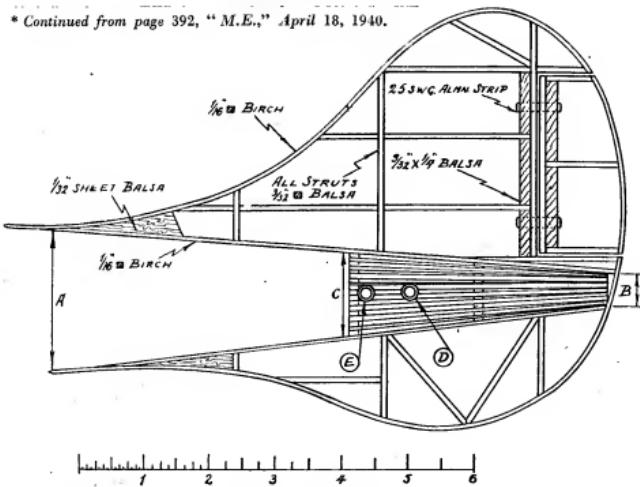
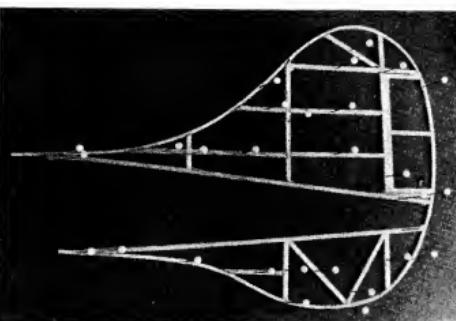
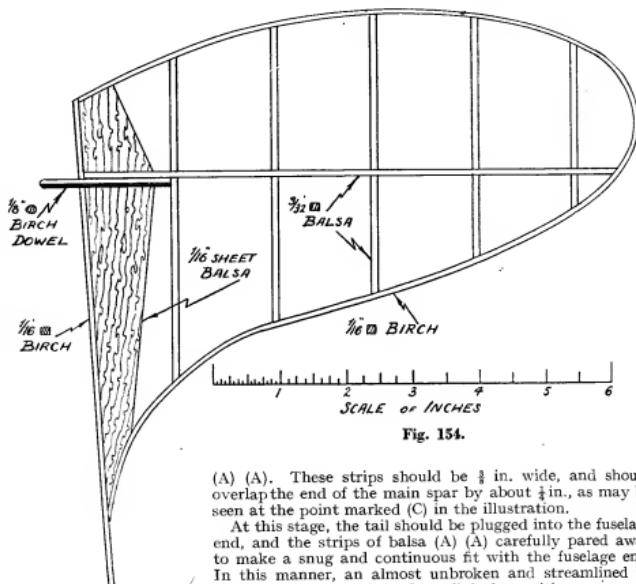

Fig. 151.
Fig. 152. First stage of rudder construction.
Fig. 154.
A start should be made on the tail fin. Measure the diameter of the extreme end of your fuselage (marked [B] in Fig. 151) and also the diameter at (C). Set these measurements out on a sheet of paper, and continue the
diverging lines to the point (A). This will form the basis for the drawing of the rudder and fin. Fig. 151 is exactly half scale, so that we may, from this, set out a full sized plan. The best method is to obtain a sheet of tracing paper large enough to cover Fig. 151, and, with a pencil, to draw a mesh of $\frac{1}{4}$ in. squares over the whole paper. This squared paper is now pinned down upon a board over Fig. 151. Next, take a sheet of drawing paper, and cover this in light pencil lines with a $\frac{1}{4}$ in. mesh. In this way the irregular outline of the fin and rudder at any point may be ascertained by noting the square, or portion of a square, at which the point lies, when it may be transferred to the equivalent $\frac{1}{4}$ in. square on the drawing paper. The scale will, of course, be automatically doubled in the process, and a fairly accurate outline of the full-sized fin obtained.
The outline being completed, the positions of the bracing struts and other components may be scaled off, and marked in. We should now have a drawing something like Fig. 151, but twice the size. I have roughly indicated the tail portion of the fuselage in this illustration, but you, of course, need not do this.
The framework of the rudder and fin is of $1/16$ in. square $\frac{1}{8}$ in. thick. This may be easily bent to shape in the steam from a kettle, after which the framework should be pinned down over the drawing in the manner indicated in Fig. 152. This picture shows the rudder in course of construction, and, in conjunction with Fig. 151, should render the building quite simple. Cut all the bracing struts accurately to size from the job, and pin them in place, flat to the board, while the cement is setting.
It will be seen that a small trimming fin is let into the rear of the rudder. Beyond cementing in the trimmer framework, do not worry about this at the moment. Build the rudder edge from one continuous length of birch; this may be cut through later to free the trimmer. Fig. 152 gives an exact idea of the work at this stage.
As the trimmer hinges on two small pieces of aluminium strip, it will be necessary to embed and cement these into the uprights of both rudder and trimmer (Fig. 151). The uprights should be carefully pierced with a broken safety razor blade before inserting the aluminium strips.
The diagram in Fig. 151 indicates the materials from which the rudder is made. Should the birch strip not
tubing which is cemented across the fuselage between stringers Nos. 4 and 5 on one side, and 12 and 13 on the other. The position of this tube is indicated at (D) in Fig. 151. The other tube shown in this drawing (marked (E)) does not pass right through the fuselage from one side to the other. It is really the end of a small piece of celluloid tube, about 3/16 in. long, which is cemented hard against the first former of the tail portion. On the other side of the fuselage there is a similar piece of tubing, and their purpose is to locate a bamboo peg which serves as an anchorage for the rear end of the rubber motor skein. Should celluloid tubing not be procurable, the tubes may be rolled from several wraps of gummed paper parcel tape,
Construction of the tail planes follows, generally, that used for the rudder. Fig. 154 is a half scale drawing of the right-hand plane. It will be remembered, of course, that planes are right and left handed; therefore, in preparing the drawings, one will be reversed. The outline will again be obtained by means of the squared paper system, and the positions of the struts marked out. As an aid to conformity in steaming the birch tail edging, it is advisable to bind, with cotton, two birch strips together, and to steam them to shape in one operation. This ensures
that each tail plane is identical in shape with the other. The drawing of the tail plane in Fig. 154 shows the primary steps in construction, and when the job has progressed to this point it is in an equivalent stage of manufacture to the rudder shown in Fig. 152. When removed from the building board several additions must be made.